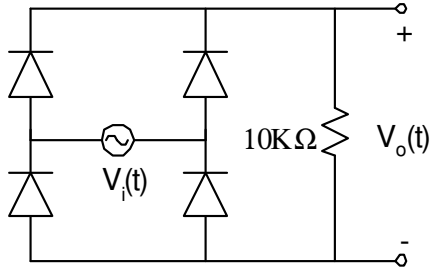

Fig 4. Full Wave Bridge Rectifier
Full Wave Bridge Rectifier: The circuit shown in Fig 4 is a full wave rectifier. As discussed in class, the resistor shown in the circuit conducts current during both the positive and negative cycles of the sinusoidal input. Note that the peak voltage drop across the resistor is $V_m - 2V_D$, where V_m is the maximum amplitude of the sinusoidal input and V_D is the voltage drop across the diode.
5. Construct the circuit of Fig 4 in PSpice. Run a transient simulation using a sinusoidal source with 5V amplitude and 1kHz frequency. Plot the voltage drop across the resistor and include it in your report. What is the peak voltage drop across the resistor? How does the circuit performance differ from the one in step 3?